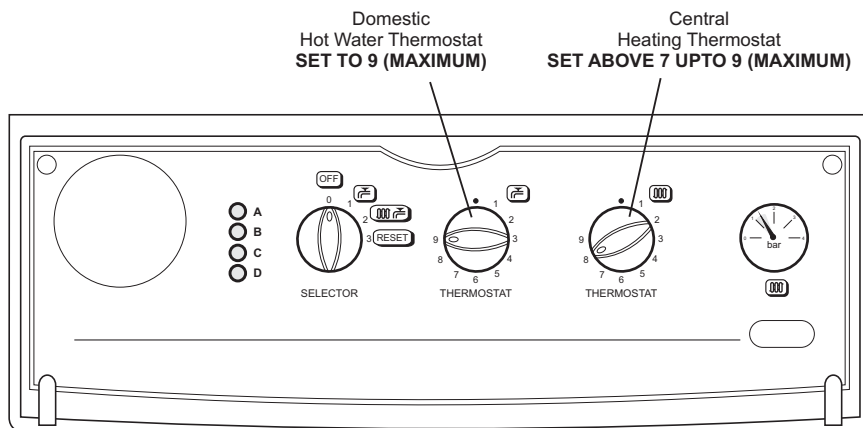

Fig. 9
4. Ensure that the boiler hot water thermostat is set to position 9 (maximum) and the boiler central heating thermostat is set to a position above 7 to max. as shown in Fig. 9.